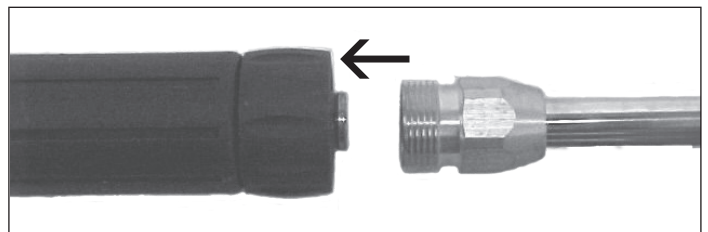

Figure 9 - Attach lance to gun
6. Attach the lance to the gun (See Figure 9).